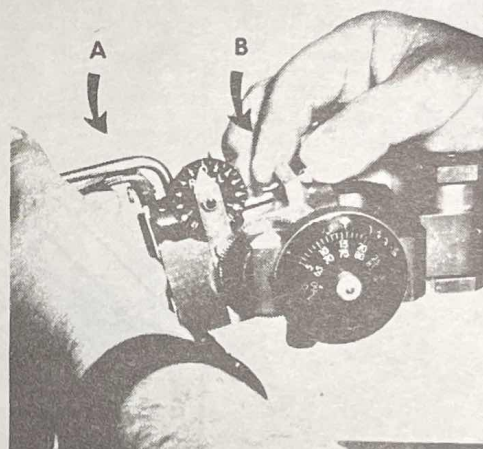

Figure 4.
For free wheeling of the spindle, the index gear can be disengaged, which is useful in grinding the gem girdle. This is done by lifting the pawl (A) and holding it in the raised position by engaging the latch, (B) (Fig. 4). The latch is spring loaded, and is released by lifting again on the pawl, allowing the latch to snap back.